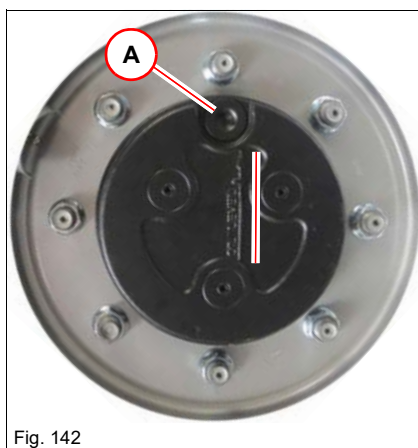

Fig. 142
8. Bring the plug **A** into the position as shown above *Fig. 142* (plug **A** must be at the top).